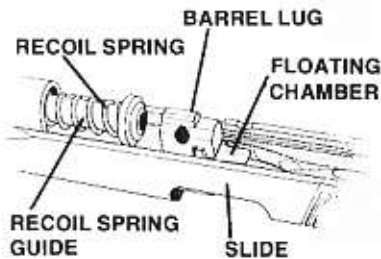

Figure 9 Removing Barrel
pull them rearward out of slide (See Figure 9).
12. Carefully align floating chamber with barrel lug and remove barrel and chamber assembly from the front of slide (See Figure 9).